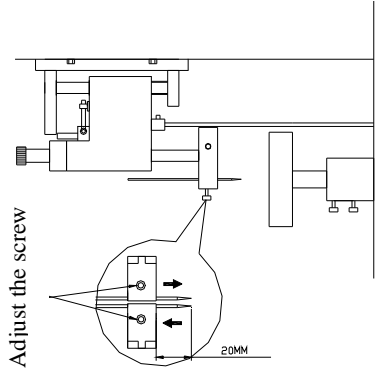

Fig.6: Adjust Height of Welding Electrode
2. Adjust the height of welding electrode (See Fig.6):
1. Adjust the height of welding electrodes (See Fig.6):